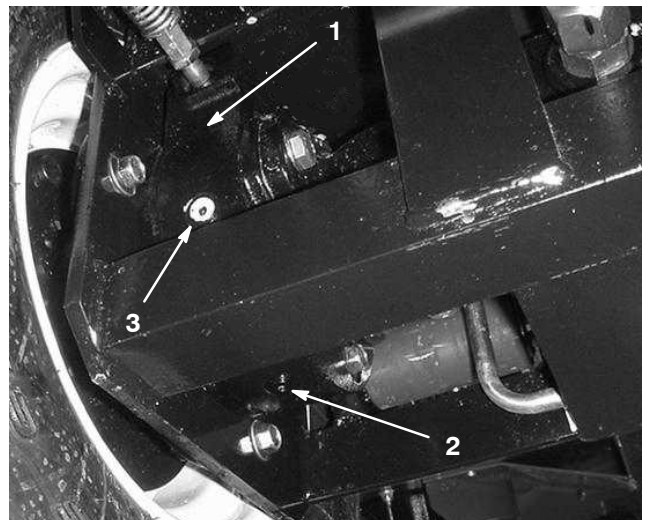

Figure 68
4. Place a drain pan under the brake housing on the other side of the wheel (Fig. 68).
7. Remove check plug from brake housing (Fig. 68).